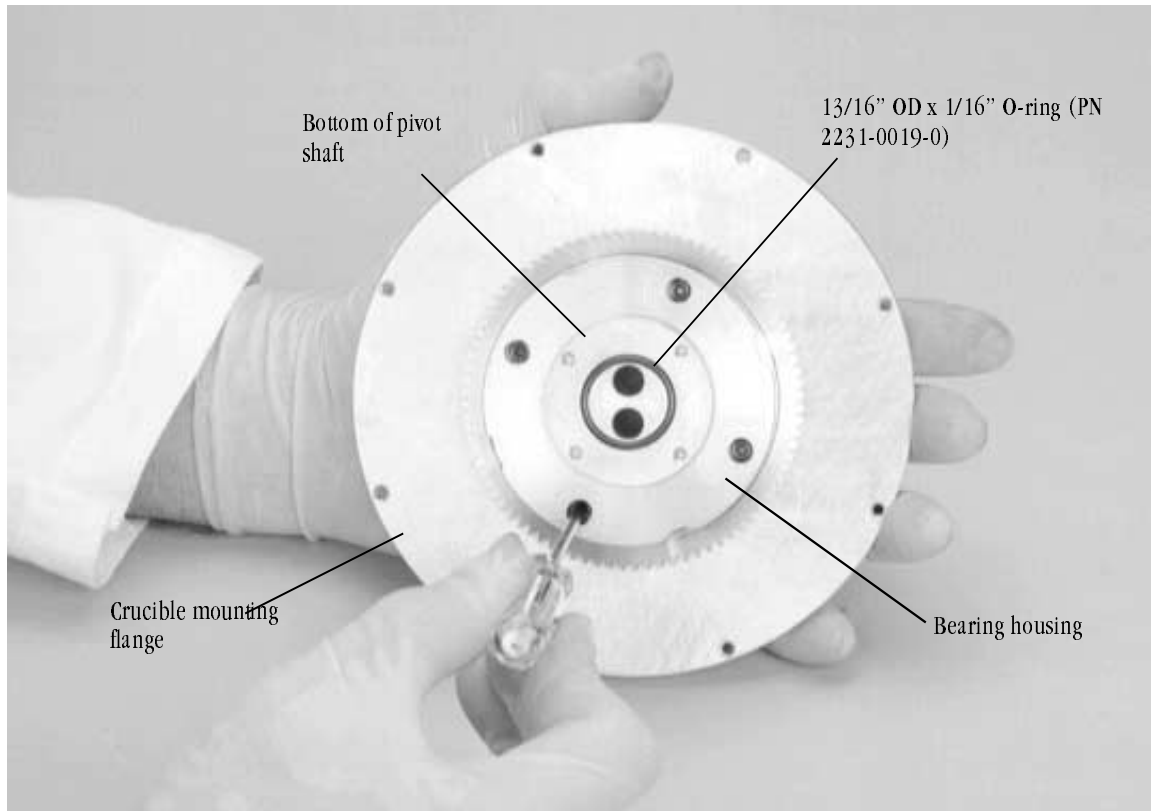

Figure 6-14. Removing the screws that secure the bearing housing assembly to the crucible mounting flange
Step 19: Remove the four 6-32 \times 5/8-in. screws that secure the bearing housing to the crucible mounting flange. To do so hold the bearing housing-mounting flange assembly in one hand, with the top of the mounting flange facing down. Then insert the Allen driver into the recesses in the bearing housing that hold the four screws and remove them, as shown in Figure 6-14.